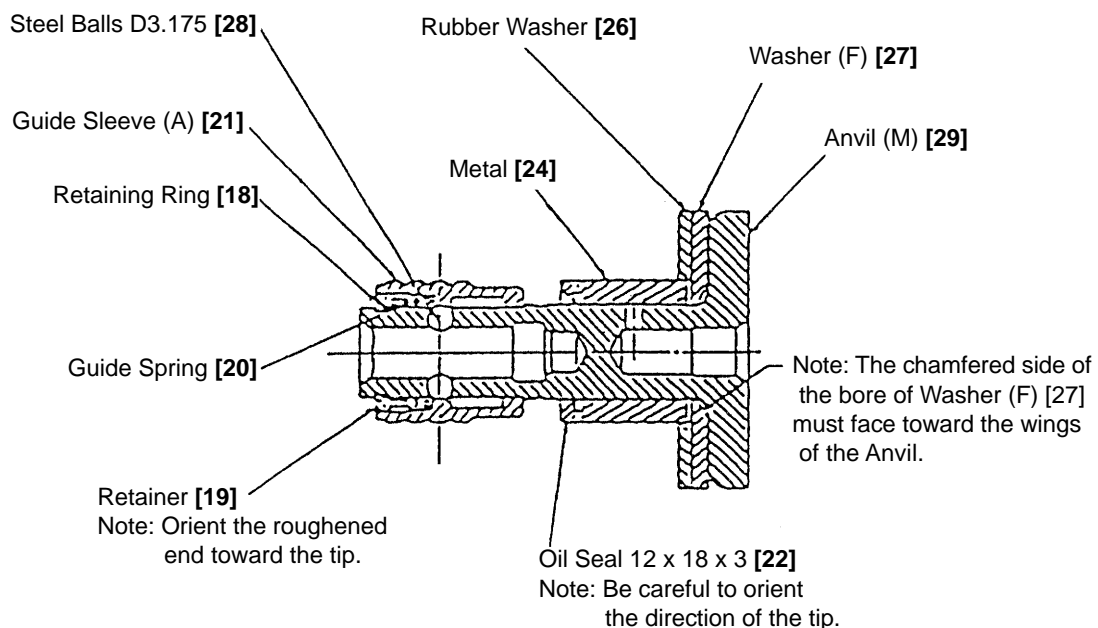

Fig. 16
(3) Assembly of mechanical parts into Housing (A)
- (a) Spline the Anvil (M) [29] with its assembly parts shown in Fig. 16 to the Spindle and install in Housing (A). Fit Washer (A) [40] behind the Ball Bearing [39].
- (b) Insert Ball Bearing (B) [48] into the Gear (second pinion) [37] and install in Housing (A) so that the gears mesh.
(5) Housing section